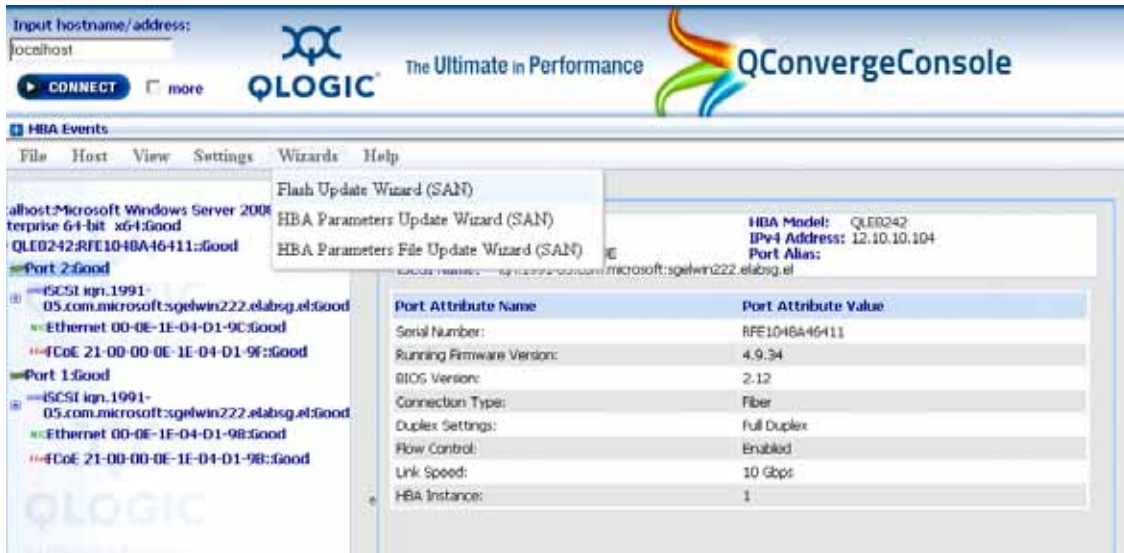

Figure 92 Wizards > Flash Update Wizard (SAN)
- Click **Wizards** and select **Flash Update Wizard (SAN)** from the drop-down menu, as shown in Figure 92.